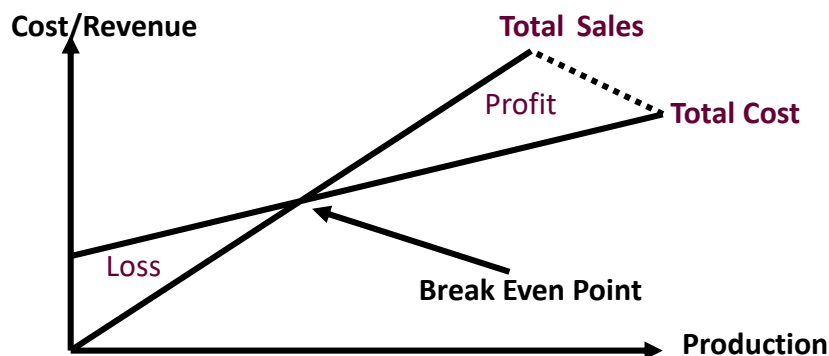

Fig 2: Breakeven point
- It is the point where the total cost line and the total sales line intersects each other as shown in fig: 2.